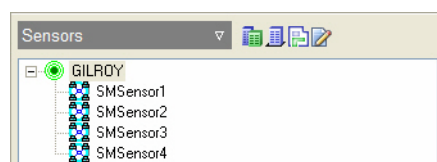
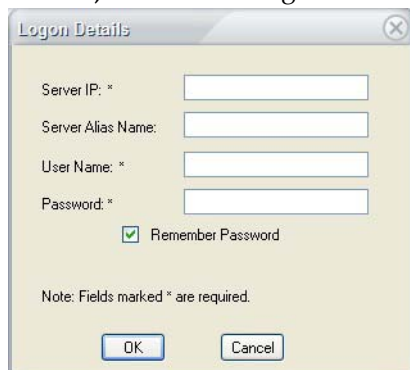

Figure 4-17: An unconfigured network tree
Figure 4-21: Changing Server login information
When you launch the AirMagnet Enterprise Console for the first time after system installation, all the AirMagnet SmartEdge Sensors on your WLAN will appear under the Enterprise Server on the left-hand side of the Start screen, as shown in Figure 4-17.
The **Connect>Server...** menu provides an effective means for managing the connection between the AirMagnet Enterprise Console and the AirMagnet Enterprise Servers. It opens the Connect Server dialog box (Figure 4-17) that contains a table showing the information of all AirMagnet Enterprise Servers you have entered. You can choose to connect to any AirMagnet Enterprise Server as long as you provide valid login information (i.e., server name or IP address, user name, and password). You can also add servers to or remove them from the table as needed.
The Auto Connect option in Figure 4-17 allows the user to automatically connect to the selected server any time the Console is launched. The user can connect to a different server by using the Connect menu, if needed.
- 4) Click **OK**. The newly added AirMagnet Enterprise Server will appear on the Connect Server dialog box. Refer to Figure 4-17.
- 1) From the Connect Server dialog box (Figure 4-17), highlight the server, and click  (**Edit Server**). The Server Login Details dialog box appears. See Figure 4-21.
- 3) Click **OK**. The changes will appear in the Connect Server dialog box (Figure 4-17).
As seen from Figure 4-21, the AirMagnet Audit Log screen has the following components: